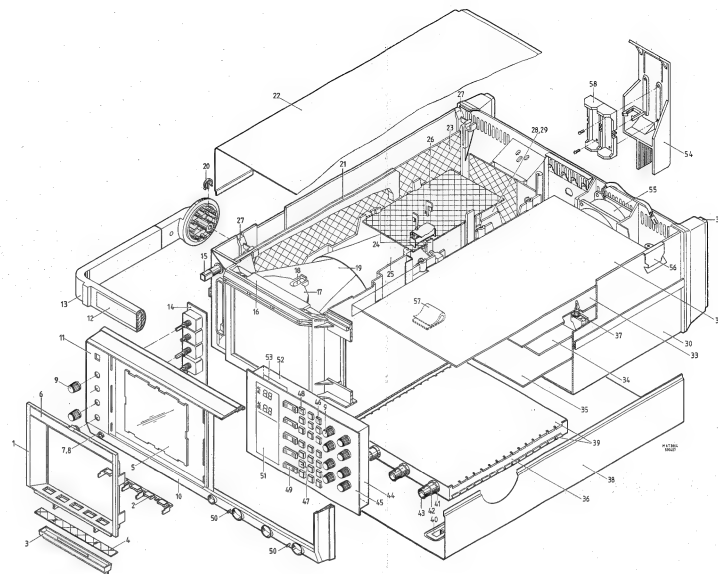

Figure 18.1 Exploded view
18.1 MECHANICAL PARTS (Are indicated in figure 18.1)